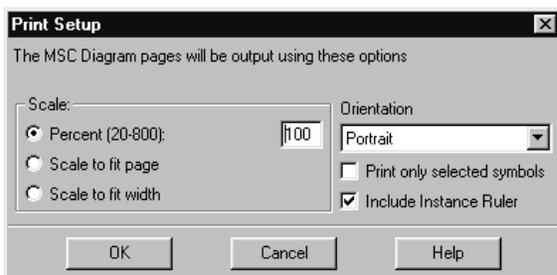

Figure 85: The MSC Editor Print Setup dialog
- *Print Setup* dialog in the MSC Editor, see Figure 85.